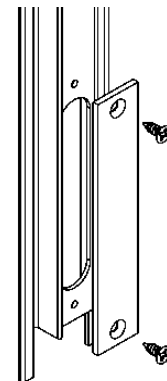

Figure 9:
- On doors with meeting stiles, a stainless steel cover is provided to cover the oblong holes at the bottom of the male meeting stile (Figure 9).